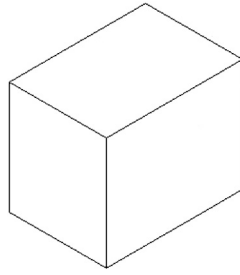

FIGURE 20.6
- Step 8.** You can press F5 again for the final surface or use the copy command. Be sure to use the ENDpoint OSNAP to cleanly connect lines. Figure 20.6 shows what you get after a few lines.